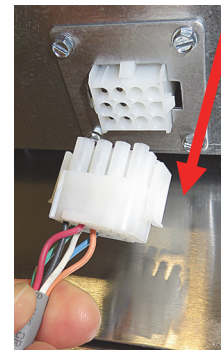

Figure 2
4. Unplug the basket lift connection on the bottom of the basket lift (see Figure 2).